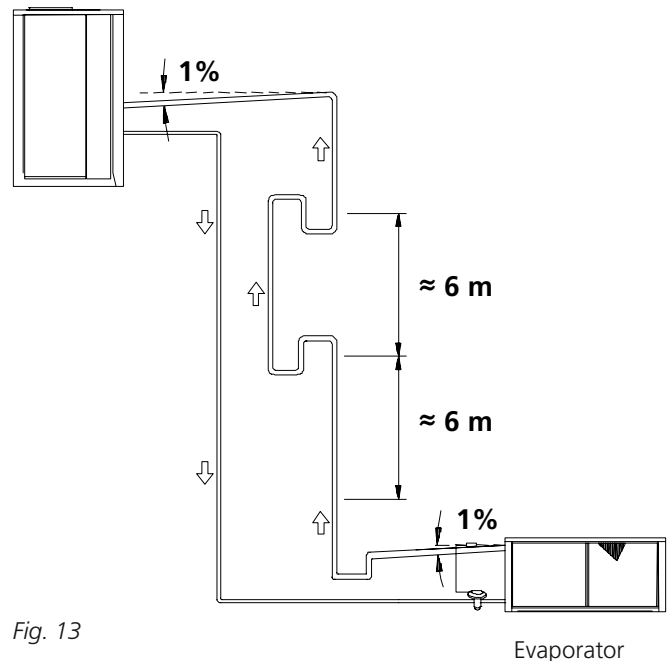

Fig. 13
6.11.2 Evaporating section at lower level than condensing section (Fig. 13)